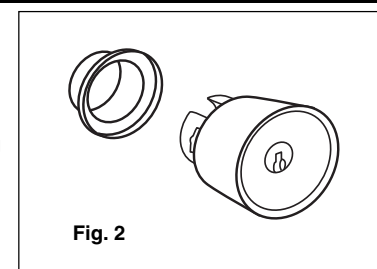

Fig. 2
- Place key in lock and rotate approximately 1/8 turn to left or right. Place bevelled end of plug follower at back of cylinder plug. (Fig. 2)
- Remove key from lock assembly. Separate knob assembly from knob assembly ring. (Fig. 2)